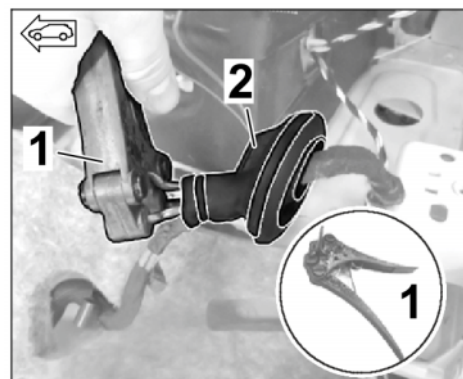

Figure 22
3.3.7 Guide the new branch for the exhaust flap (left/right) through the new grommet (left = Ø 66.5 mm/right = Ø 46 mm ⇒ *Figure 22*) using three mandrel pliers and an auxiliary line (Tekalan or Teflon tube).